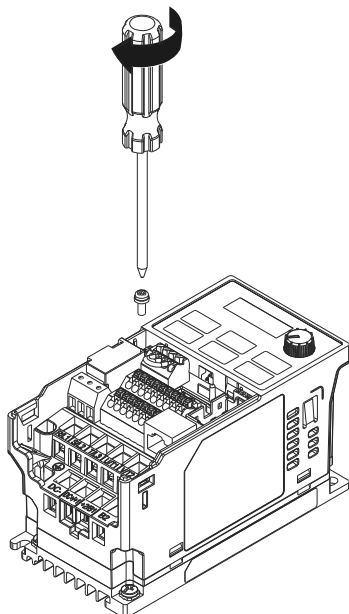

Figure 8-3
3. As shown in Figure 8-3, make sure that the clip is properly engage the adapter/option card, and then fasten the screw (Suggested torque value: 4–6 kg-cm [3.5–5.2 lb-in.] [0.39–0.59 Nm]).